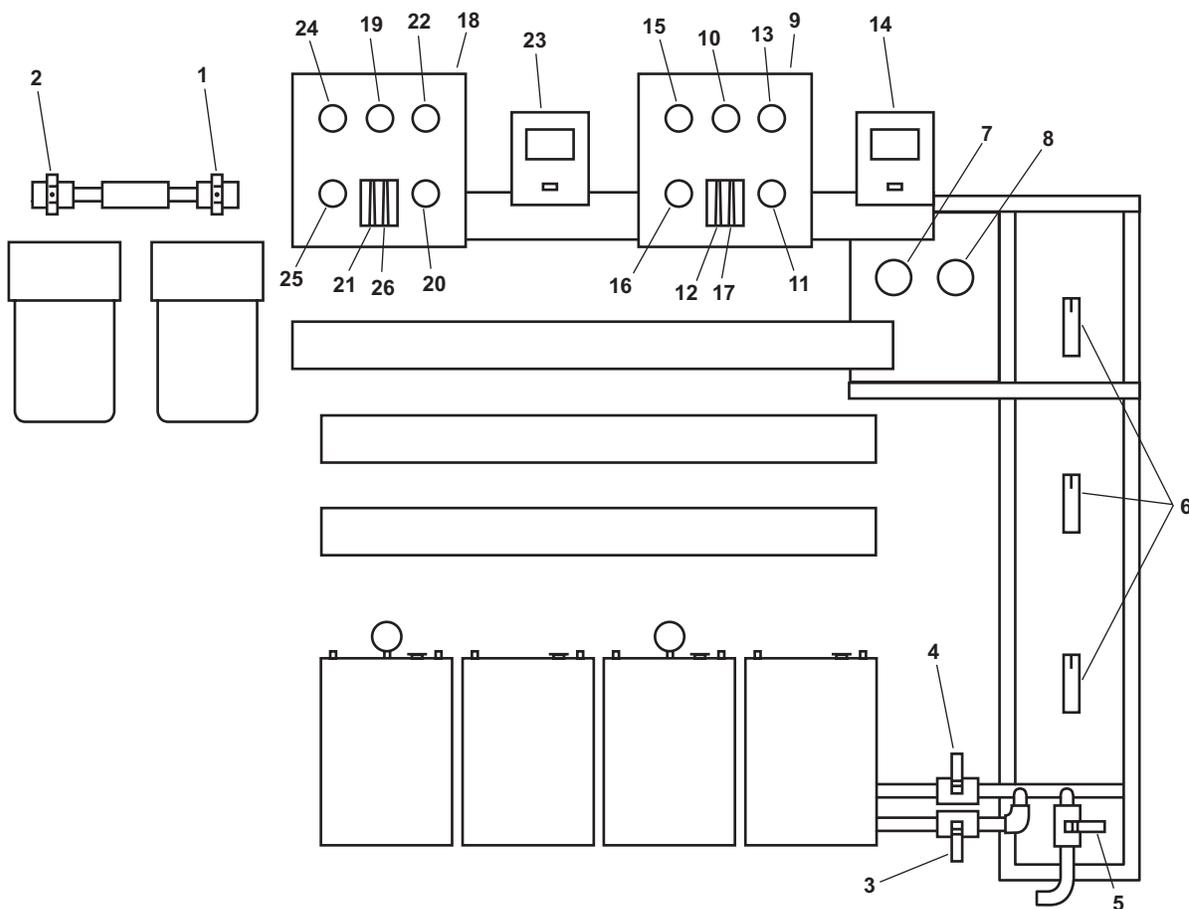
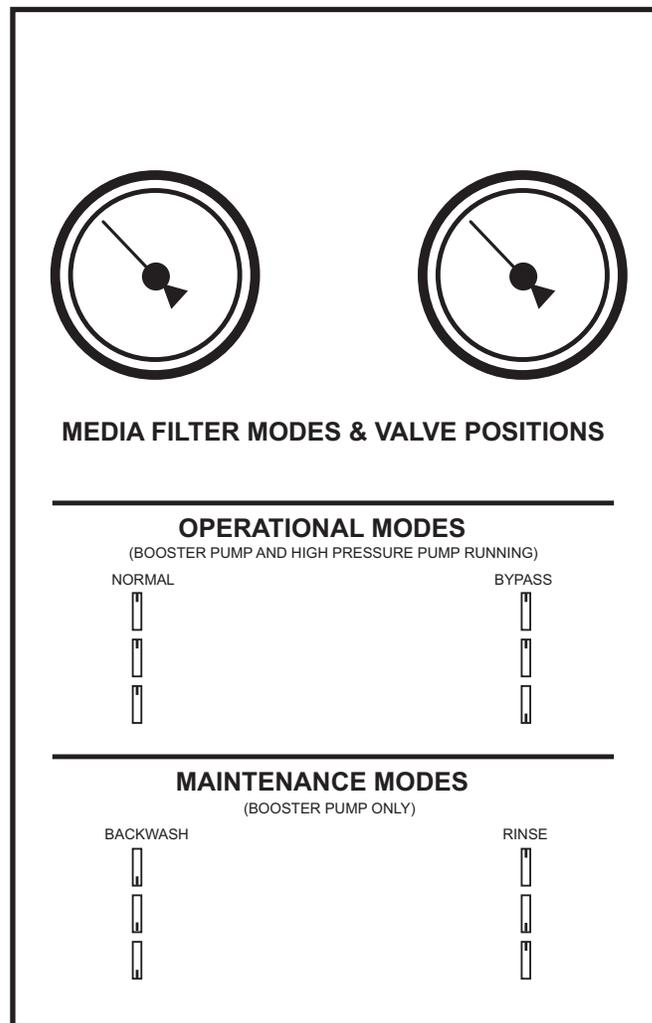
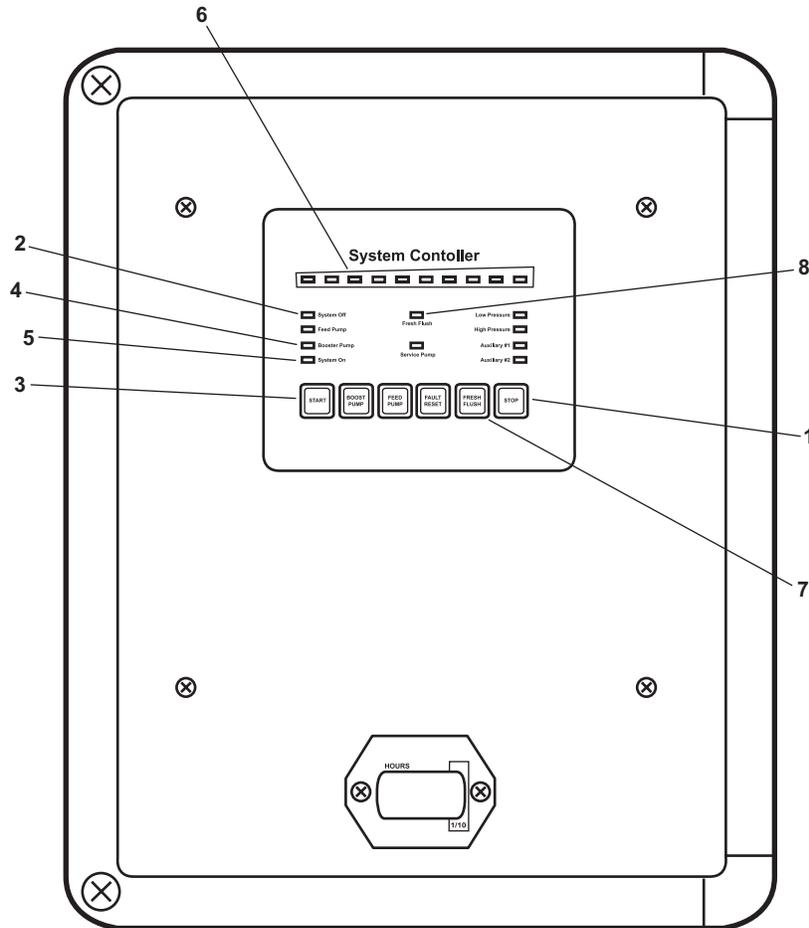

Figure 9. ROWPU System, Front View
Figure 12. Media Filter Maintenance Mode Valve Positions
Figure 13. System Controller
- a. RO-V-7 (figure 9, item 1), backflow preventer supply valve.
- b. RO-V-6, (figure 9, item 2), backflow preventer discharge valve.
- c. RO-V-1-1 (figure 9, item 3), ROWPU 1 inlet sea water supply.
- d. RO-V-2-1 (figure 9, item 4), ROWPU 2 inlet sea water supply.
- f. RO-V-5 (figure 9, item 5), cleaning supply.
4. Align the media filter maintenance mode valves (figure 9, item 6) to the “BACKWASH” position as shown in figure 12.
6. Verify that the media filter INLET PRESSURE gauge (figure 9, item 7) does not exceed 45 PSI (3.1 bar).
7. Verify that the pressure differential between the media filter INLET PRESSURE gauge (figure 9, item 7) and the media filter OUTLET PRESSURE gauge (figure 9, item 8) does not exceed 20 PSI (2.4 bar).
8. BACKWASH the media filter for a minimum of 10 minutes, or until differential pressure between the media filter INLET PRESSURE gauge (figure 9, item 7) and the media filter OUTLET PRESSURE gauge (figure 9, item 8) is less than 5 PSI (0.3 bar).
10. Align the media filter maintenance mode valves (figure 9, item 6) to the “RINSE” position as shown in figure 12.
- d. RO-V-5 (figure 9, item 5), cleaning supply.
16. Align the media filter maintenance mode valves (figure 9, item 6) to the "NORMAL" position as shown in figure 12.
- a. RO-V-1-1 (figure 9, item 3), ROWPU 1 inlet sea water supply.
3. At ROWPU 1 flow control panel (figure 9, item 9), perform the following:
- a. Verify that the HIGH PRESSURE PUMP INLET pressure gauge (figure 9, item 10) indicates a minimum of 10 PSI (0.7 bar).
- b. Fully OPEN the SYSTEM HIGH PRESSURE REGULATOR valve, RO-V-1-3 (figure 9, item 11).
- c. Observe the BRINE flow meter (figure 9, item 12) until it displays a minimum reading of 1 gal/min (3.8 l/min) with few or no bubbles present.
- d. Verify that the SYSTEM OPERATION PRESSURE gauge (figure 9, item 13) does not rise above 50 PSI (3.4 bar).
4. At the ROWPU 1 system controller (figure 9, item 14), perform the following:
- a. Press the STOP pushbutton (figure 13, item 1), and verify that the SYSTEM OFF indicator (figure 13, item 2) is illuminated.
- b. Press the START pushbutton (figure 13, item 3), and verify the following:
- (1) BOOSTER PUMP indicator (figure 13, item 4) illuminates.
- (2) SYSTEM ON indicator (figure 13, item 5) is illuminated.
5. Verify the following conditions at the ROWPU 1 flow control panel (figure 9, item 9):
- a. The BRINE flow meter (figure 9, item 12) displays a minimum flow reading of 4 gallons (15.1 liters) per minute with no bubbles present.
- b. The BRINE DISCHARGE PRESSURE gauge (figure 9, item 15) indicates less than 15 PSI (1 bar).
- c. The PRODUCT WATER OUTPUT PRESSURE gauge (figure 9, item 16) indicates approximately 0 PSI (0.0 bar).
- d. The SYSTEM OPERATION PRESSURE gauge (figure 9, item 13) indicates less than 50 PSI (3.4 bar).
- e. The PRODUCT WATER flow meter (figure 9, item 17) indicates less than 1 gallon (3.8 liters) per hour.
6. Allow the system to operate in this configuration for approximately two minutes. Ensure that all gauges stabilize, and most of the air is purged from the system as indicated by a fluid stream with few or no bubbles flowing through the BRINE flow meter (figure 9, item 12).